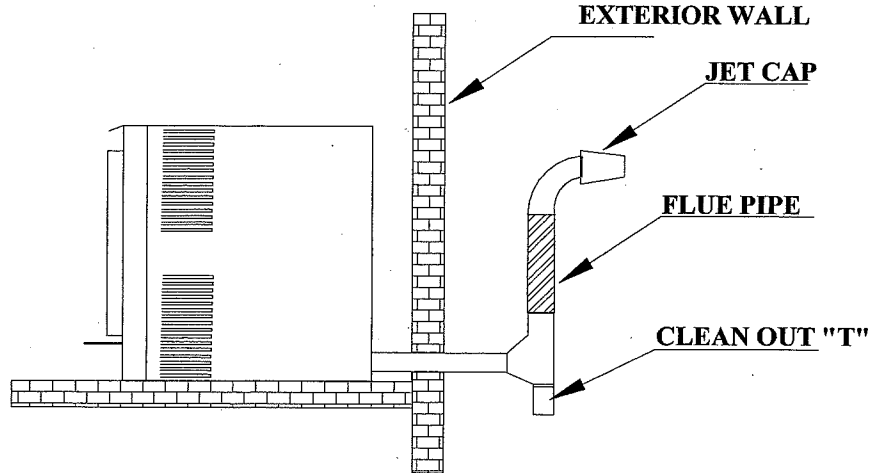

FIGURE 4: RECOMMENDED EXTERIOR WALL INSTALLATION
8. For installations that pass through a vertical wall and not through the roof, Country Flame recommends an installation similar to the one shown in FIGURE 4. The flue cap should maintain a minimum of sixteen inches below the roof overhang. The NPS-1000 and the outside flue pipe should maintain a minimum of three inches for a combustibile wall. Outside flue pipe should have a vertical run of at least five feet. Do not terminate the flue pipe just under the roof overhang. Such a termination can cause smoke to seep back